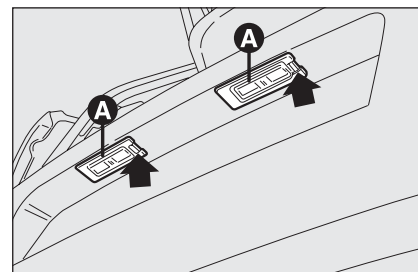

fig. 24
- work in the point shown by the arrow and remove lens **A**-fig. 24;